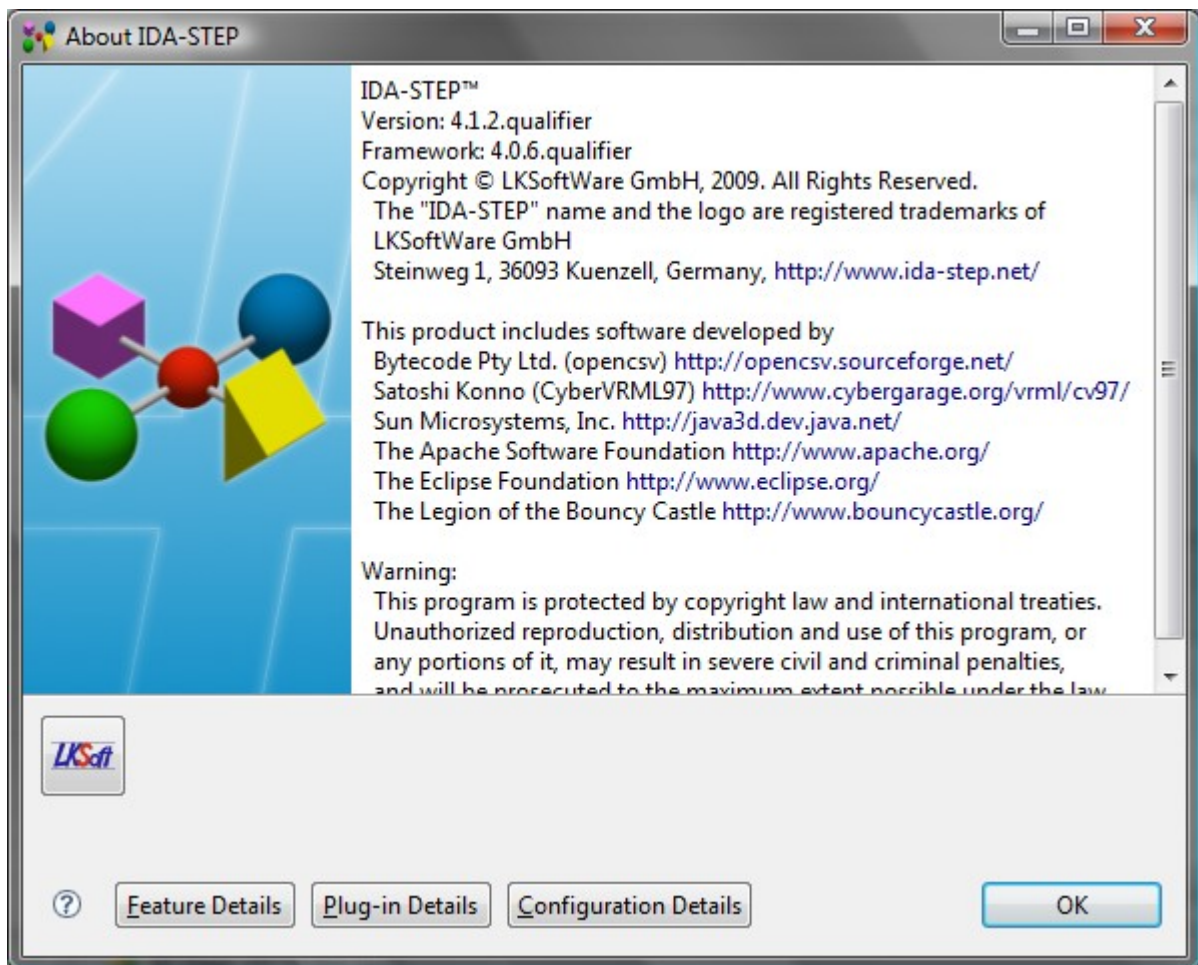

Figure 1. About IDA-STEP dialog window
2. Select **About IDA-STEP** item in the **Help** menu. The About IDA-STEP dialog window appears (see Figure 1):